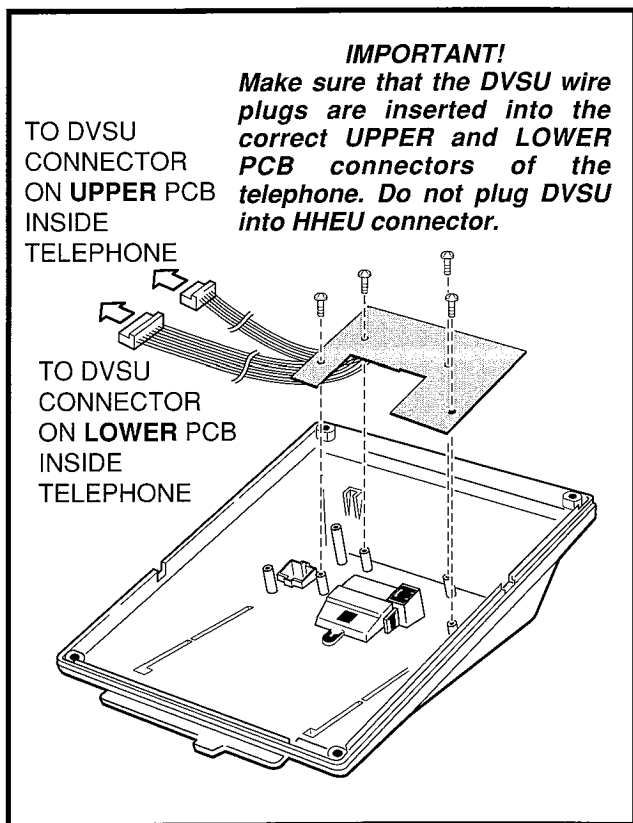

FIGURE 7-12—DVSU INSTALLATION
- 2) Loosen the four captive screws securing the metal plate to the standoffs inside the base where the DVSU will be installed (Figure 7-12). Remove the metal plate, which can be discarded.
- 3) Position the DVSU PCB on the standoffs (Figure 7-12), and secure with the four screws provided.